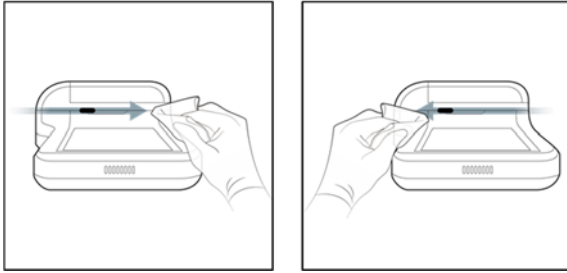

Figure 6. Wipe the item selection key.
7. Follow the Figure 6 to wipe the item selection key.